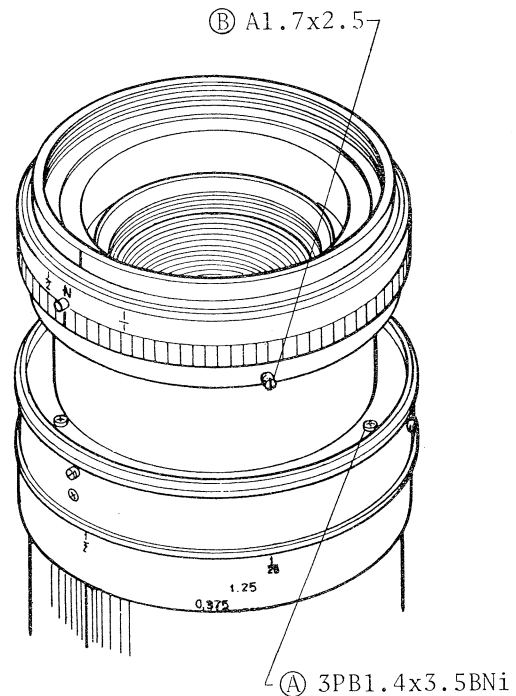

Fig.32
1. Loosen three set screws A1.7x2.5 for LF611-4001 magnification ring as shown in Fig. 32.
2. After rotating the helicoid counter clockwise loosen three screws ⑩ as shown in Fig. 32.